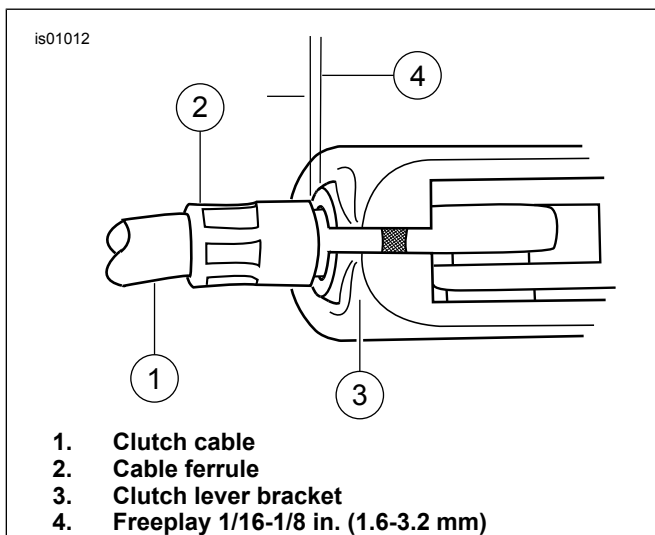

Figure 4. Clutch Hand Lever
- b. See Figure 4. Pull the clutch cable ferrule (2) away from the clutch lever bracket (3) to check the free play. Turn the cable adjuster as necessary to obtain 1/16-1/8 inch (1.6-3.2 mm) free play between the end of the cable ferrule and the clutch lever bracket.